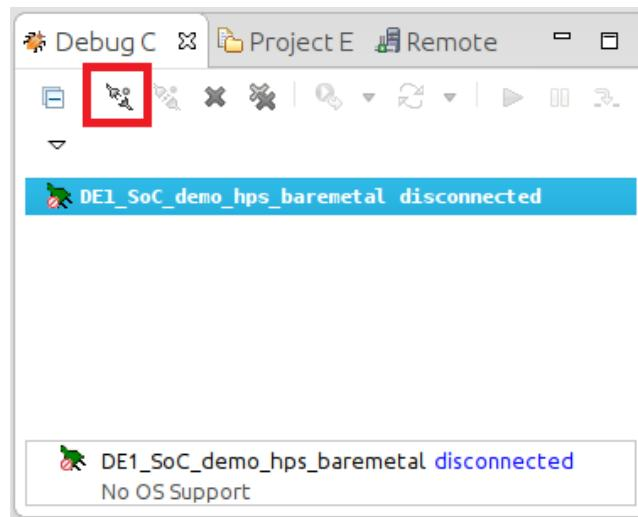

Figure 12-14. Debug Control View
21. In the "Debug Control" view, click on the "DE1_SoC_demo_hps_baremetal" entry, then click on the "Connect to Target" button, as shown on Figure 12-14. Our debug script will load and execute the preloader, then it will load and wait at our application's "main()" function.